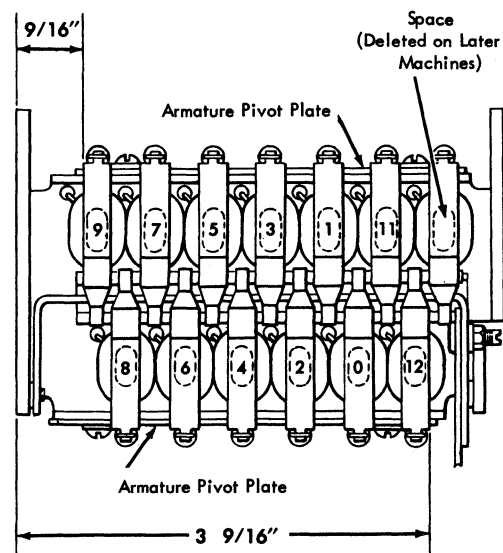

Figure 30. Armature Pivot Adjustment
1. Position armature pivot plate as shown in Figures 30 and 31.